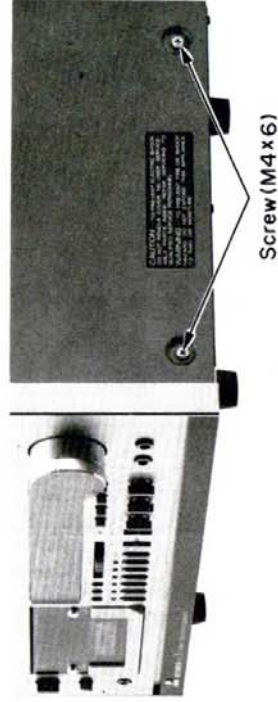

Fig. 1
- 1) Remove the 4 screws shown in Fig. 1, and lift the top cover off.